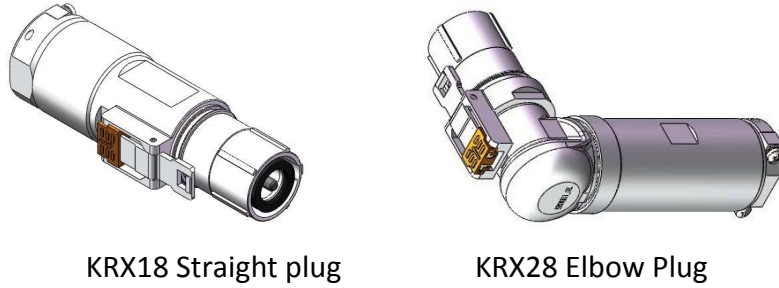

Figure 1
1. Remove the plug, straight plug, elbow plug structure as shown in figure 1